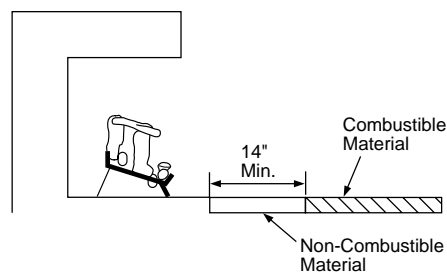

Figure 9 - Minimum Fireplace Clearances If Installed at Floor Level
A. If installing appliance on the floor level, you must maintain the minimum distance of 14" to combustibles (see Figure 9).